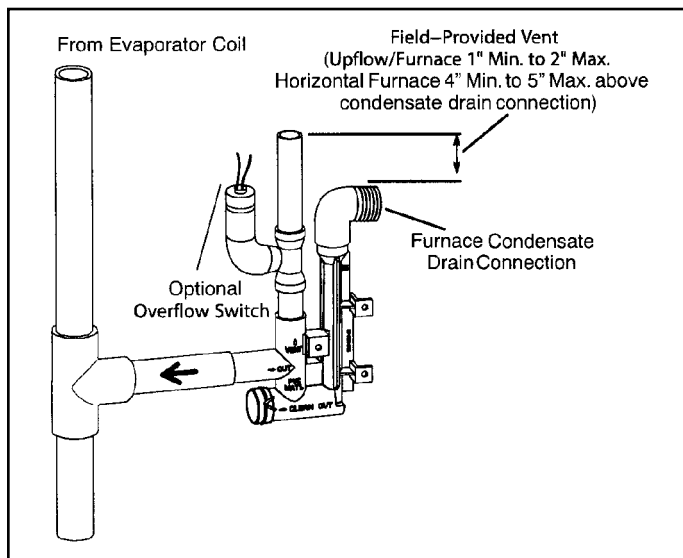

Figure 54. Condensate Trap with Optional Overflow Switch
3. Install the cap over the clean out opening at the base of the trap. Secure with clamp. See Figure 54.